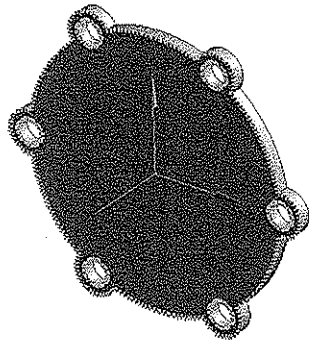

Figure 4-58 The front face of the model selected for creating the plane
- 4. Choose the **Face** tool from the **Select** toolbar and then select the front face of the model, as shown in Figure 4-58.